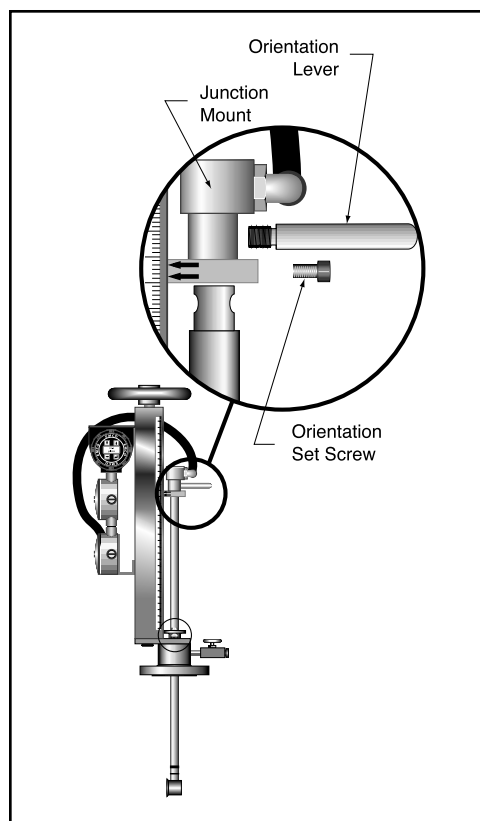

Figure 6-28. Removing the V-Bar-900 Sensor. Unscrew the stem from the junction mount and remove the stem by pulling it out from the bottom of the meter.
Step 3. Remove the orientation lever and the orientation set screw. For the temperature or pressure transmitter options remove the two terminal block set screws from the terminal wiring block in the field wiring conduit. Pull the terminal block out far enough to clear a path for the sensor connector. (Figure 6-28)